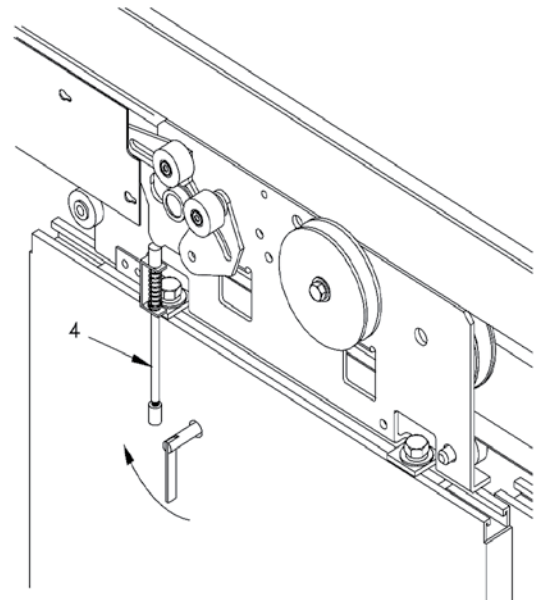

Figure 25 Unlocking Device and Key
2. Move the rod (4) up and down to verify proper operation. See Figure 25.